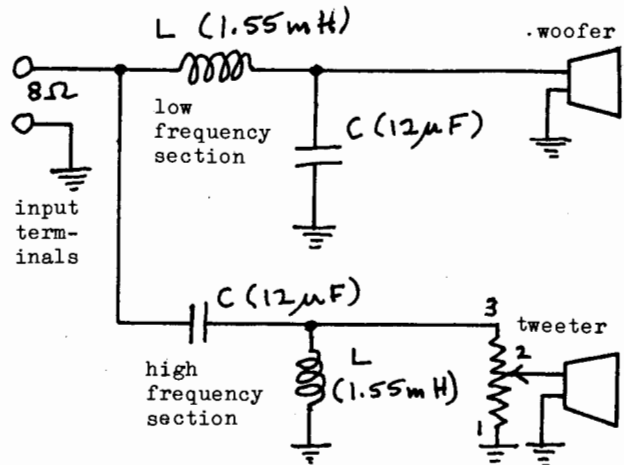

Figure 3. Two way, 12 dB per octave crossover. The parts values shown are for an 8 ohm system crossing over at 1160 Hz.
A crossover network with a sharper cutoff characteristic, 12 dB per octave, is shown in Figure 3. Unfortunately the parts values for the 12 dB crossover are not given by one simple formula as in the case of the 6 dB unit. However, the two systems have this in common: each consists of two sections, one for the woofer and one for the tweeter. The two sections are fed in parallel from the input terminals. All the crossover systems discussed in this report share this feature; each speaker is driven by a crossover section for the part of the spectrum allocated to that speaker, and all the sections are connected to the input terminals in parallel.
If the crossover system of Figure 3 is used with 8 ohm speakers, the part values will be 2.2 mH and 18 microfarads for an 800 Hz crossover, or 3.3 mH and 28 microfarads for a 500 Hz crossover.
Page 3 of the "Guide to Crossover Design" (Report No. 1) gives the formulas for inductance (L) and capacitance (C) for 6dB/octave crossover sections. There are some formulas that may be used to 12dB/octave sections as shown in Figure 3 of the Guide. The formulas are: